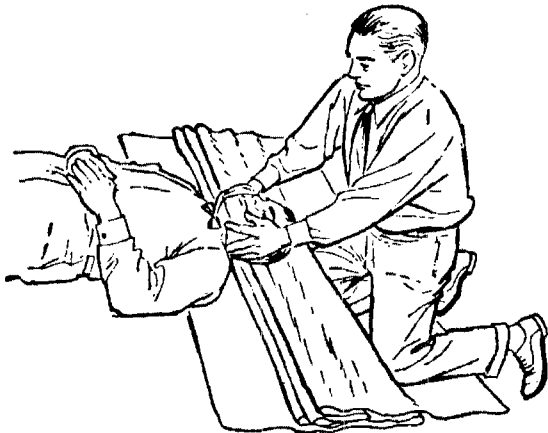

Fig. 31—Placing the Blanket under the Victim
- Step 3. No. 1 takes the position on one or both of his knees and grasps the victim's head in the standard manner for applying traction. (See Fig. 31.)